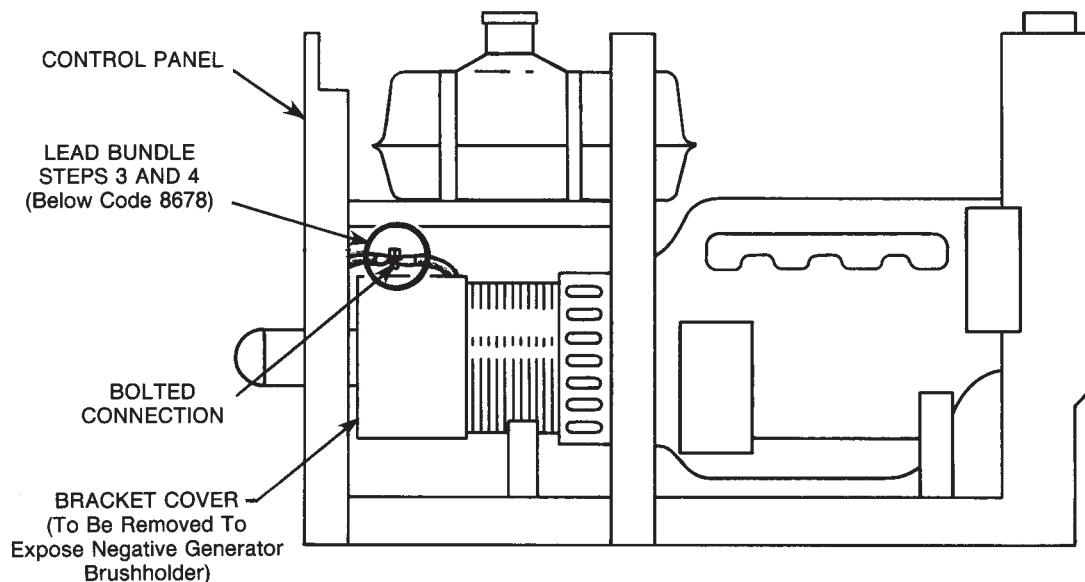

FIGURE 2 – SA-200 with Roof Assembly Removed.
1. Remove roof assembly and bracket cover (cover on top and at rear of generator). (See Figure 2.) Also, remove the two gas tank support mounting bolts on the side opposite the output studs.
- FOR CODE NUMBERS BELOW 8678, unbolt existing brown field lead from black exciter leads in the lead bundle and bolt it to CV Adapter lead 509 using #10 x 1/4 bolt and nut provided. Tape up connection and unused lead terminal on lead 509 (see Figure 2 below).
- FOR CODE NUMBERS BELOW 8678, connect CV Adapter lead 610 to black exciter lead bolted connection shown in Figure 2 and insulate the connection with tape. Tape unused lead terminal on lead 610.
8. The negative generator brushholder, exposed when bracket cover (see Figure 2) is removed, is at the 11 o'clock position when the commutator is viewed from the control panel end of welder. Remove the 5/16 bolt which connects the two existing cables to the negative brushholder. Locate the thermostat assembly marked "200" and reconnect the two cables to the negative brushholder with *one end of the thermostat assembly bolted between the cable lugs and the brushholder.*
2. Drill two holes in fuel tank rail opposite output terminals as in Figure 2 if holes are not in unit.